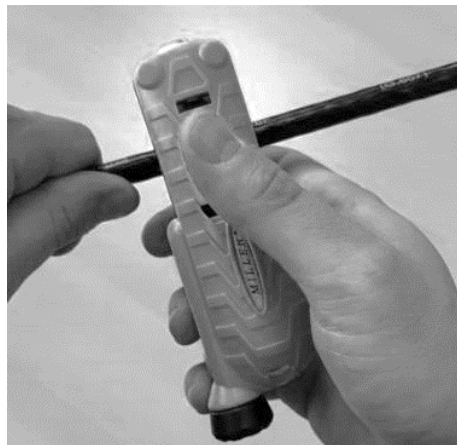

Figure 24 - Ring cut the outer cable sheath
5.10 Again, use the Miller MB02 to ring cut the cable at one of the measured marks. Lightly score the outer cable sheath rather than cut all the way through (Figure 24).